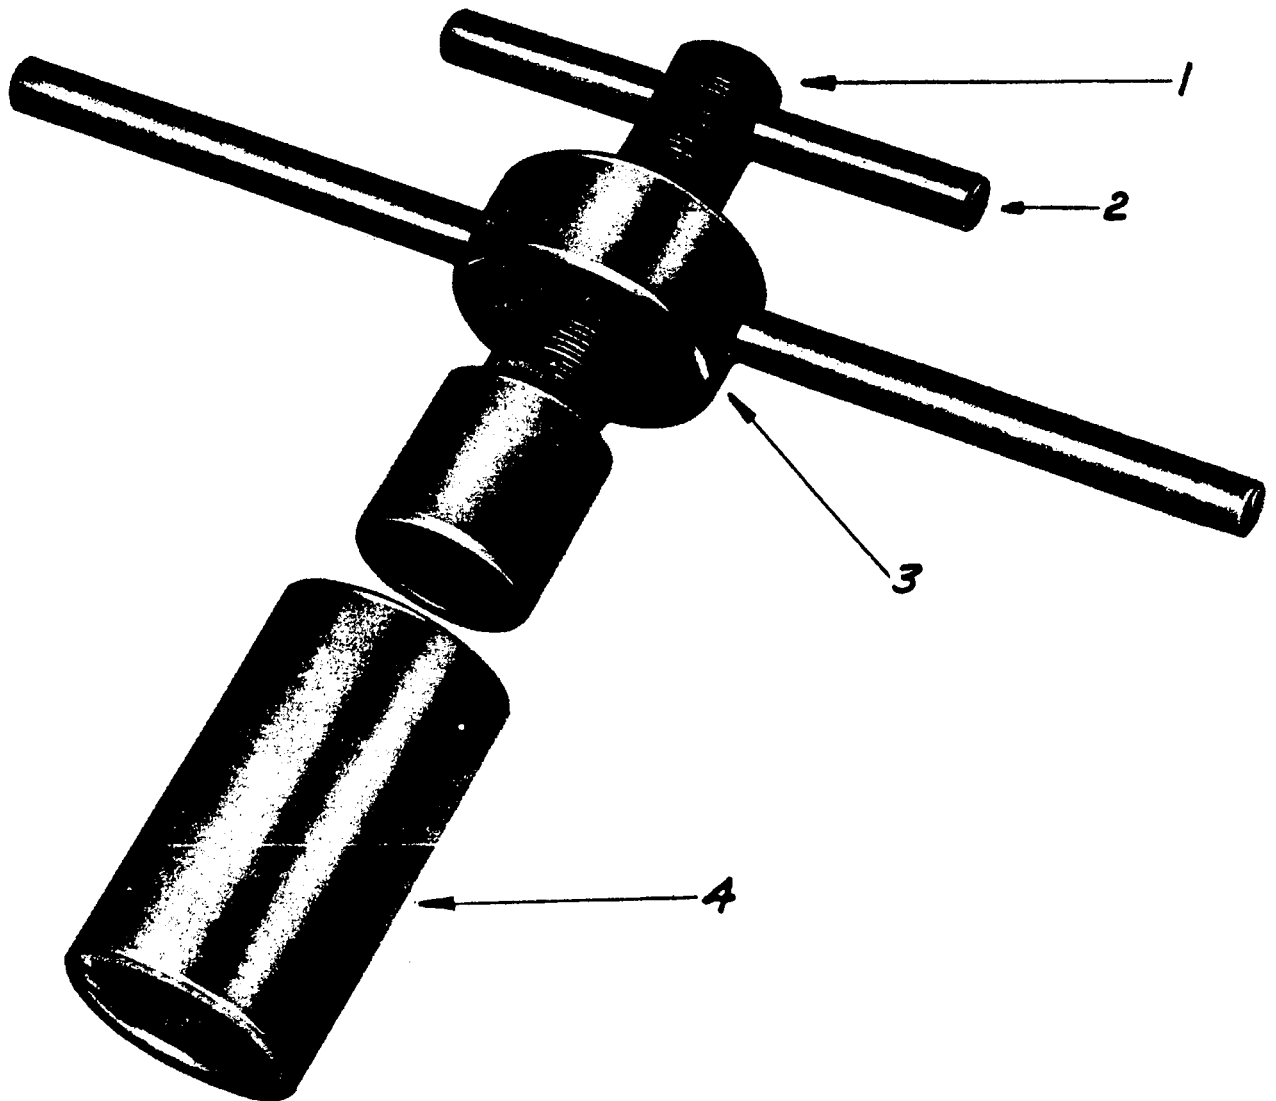
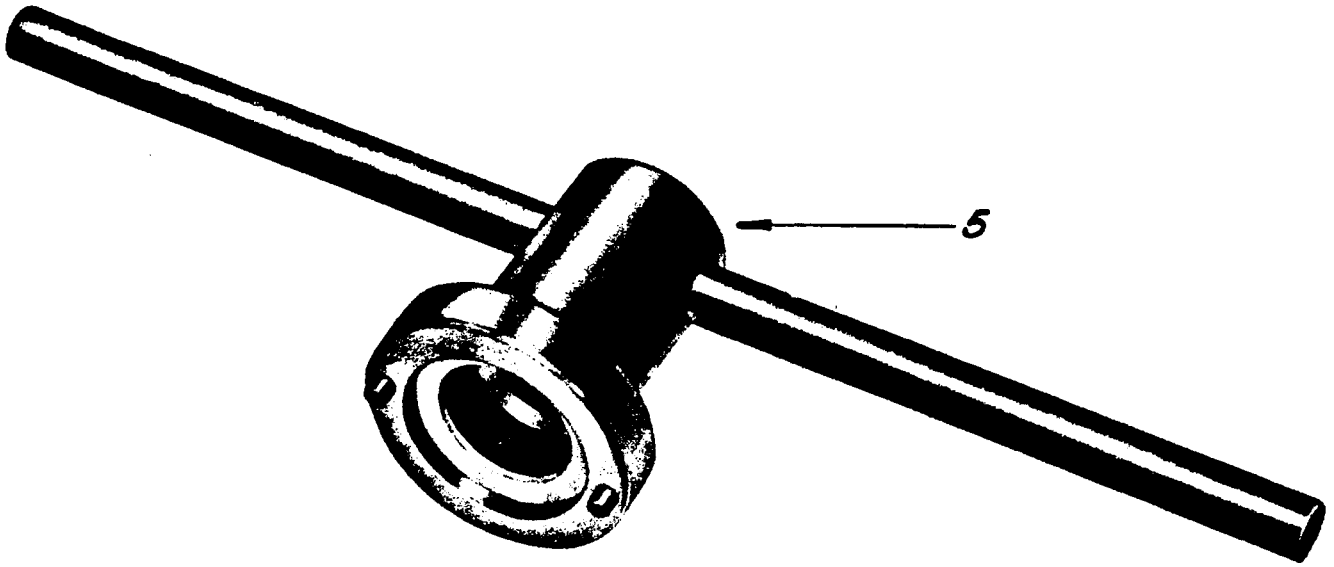
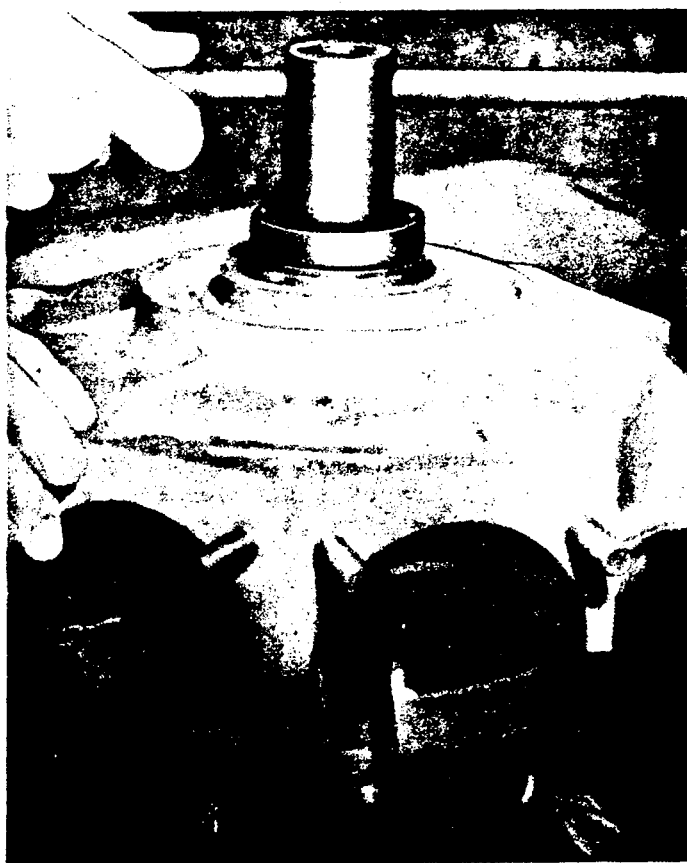

Figure 1.
Figure 2. Sprocket Shaft Bearing Nut Wrench, Part No. 97235-55.
Figure 5.
(Note: The two tools shown in Figures 2 and 3 are not included in tool set, part No. 97225-55 of Figure 1. They must be ordered separately.)
Hold pinion shaft end of flywheels (with sprocket side of crankcase assembled) between copper jaws in a vise. Remove sprocket shaft bearing outer race lock nut from sprocket side of crankcase bushing using sprocket shaft bearing nut wrench, part No. 97235-55. (See Figure 2.) Turn lock nut to right, since this is a left hand thread. (See Figure 5 below.)
If flywheel side sprocket shaft bearing has been removed for any reason, install with tool set 97225-55 (Figure 1) on previously assembled and aligned flywheels as follows:
Next, turn tool screw (1, Figure 1) on sprocket shaft thread using handle (2) and tighten snugly. Remove handle and slip sprocket side bearing over sprocket shaft so that it starts squarely on end of sprocket shaft. Be sure that tapered side of bearing faces flywheel side. Install tool collar (4) on screw placing bottom against bearing.
Install bearing locknut in crankcase using sprocket shaft bearing nut wrench, part No. 97235-55, as shown in Figure 2. This nut should be started by hand turning counterclockwise, since this is a left hand thread. Final tightening of the locknut can be left until the crankcase is assembled and held more rigid. At that time the nut should be staked with a punch at the slot, punching metal into the slot, locking nut into place.